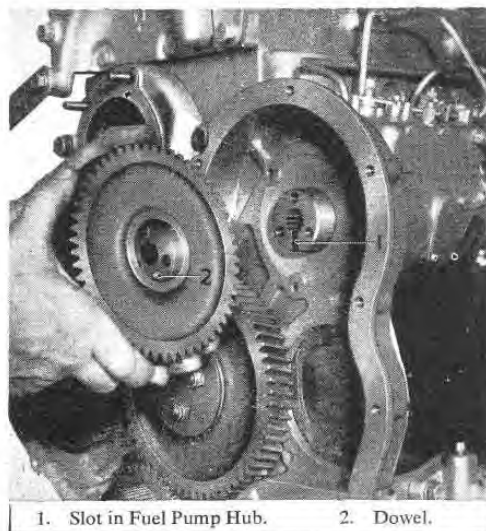

Fig. B42 — Removing the Fuel Pump Gear
4. Withdraw the gear from its dowelled location on the fuel pump (Fig. B42).